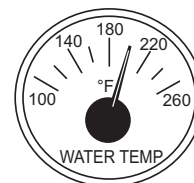

Figure 40. Coolant Temperature Gauge
- The **coolant temperature gauge** (Figure 40) will indicate the coolant temperature. Under normal operating conditions the coolant temperature should be approximately 180°F (82°C).